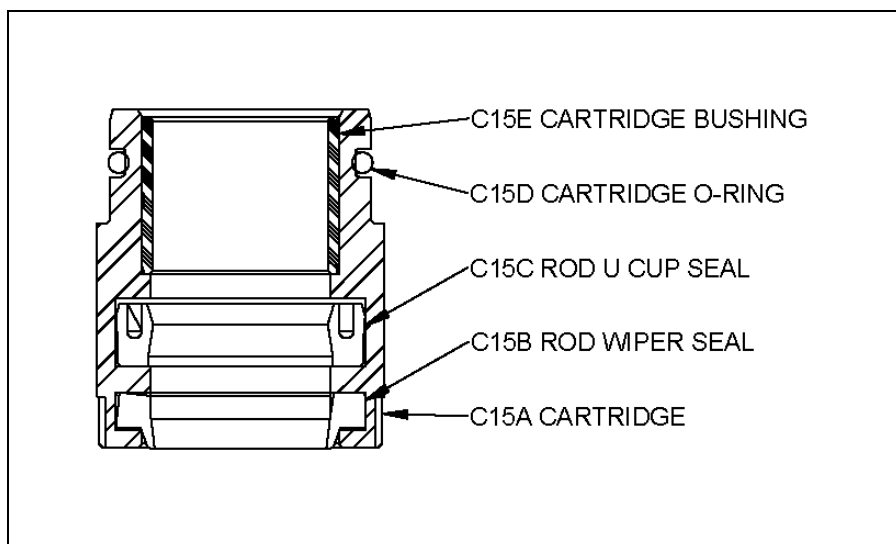

Figure 4: Cartridge Assembly (C15)
See Figure 4. The Rod U Cup Seal (C15C) and Rod Wiper Seal (C15B) are installed in the Cartridge (C15A), along with an O-ring (C15D).
2. Insert the Rod U Cup Seal (C15C) into its groove, with the cup facing inwards similar to Figure 4.